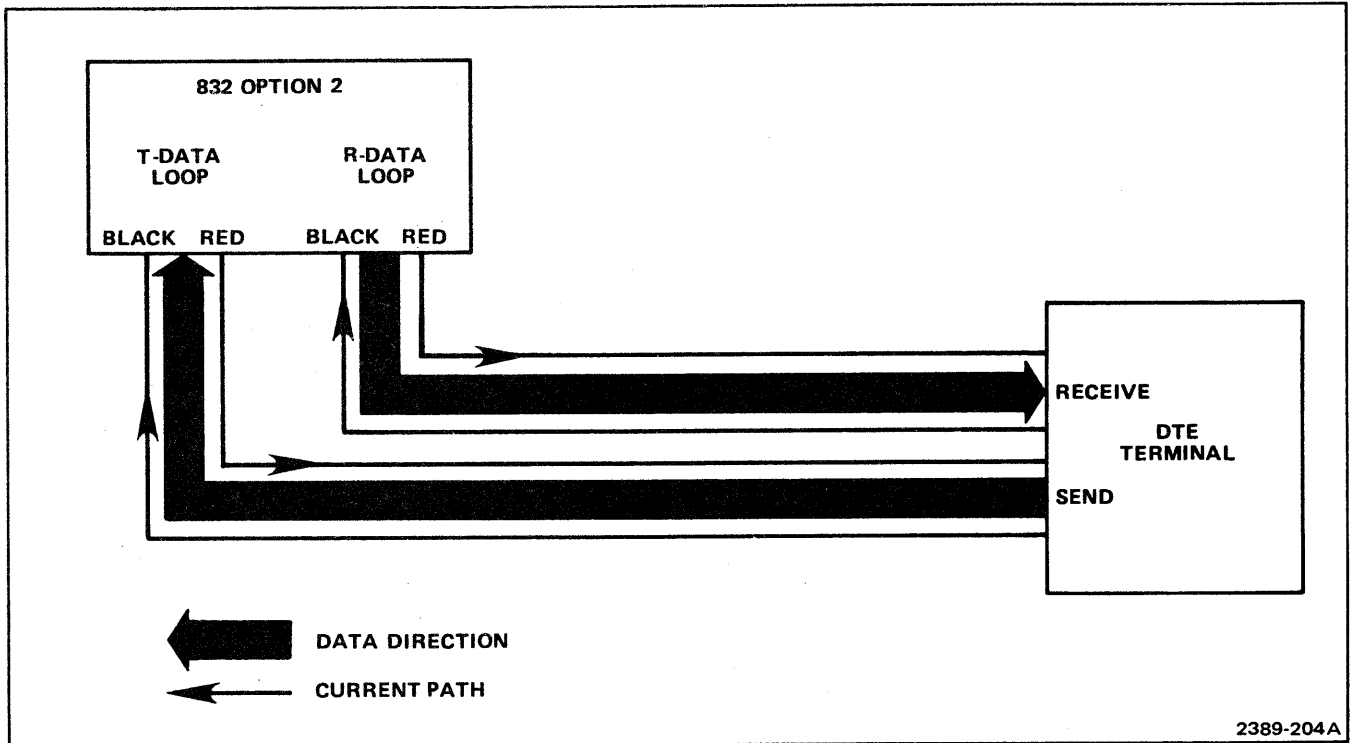

Figure Option 2-7. Full-Duplex (four-wire) Modem Simulator Mode.
3. Connect both the R-DATA LOOP and T-DATA LOOP test leads to the unit under test as shown in Figures Option 2-7 and Option 2-8.